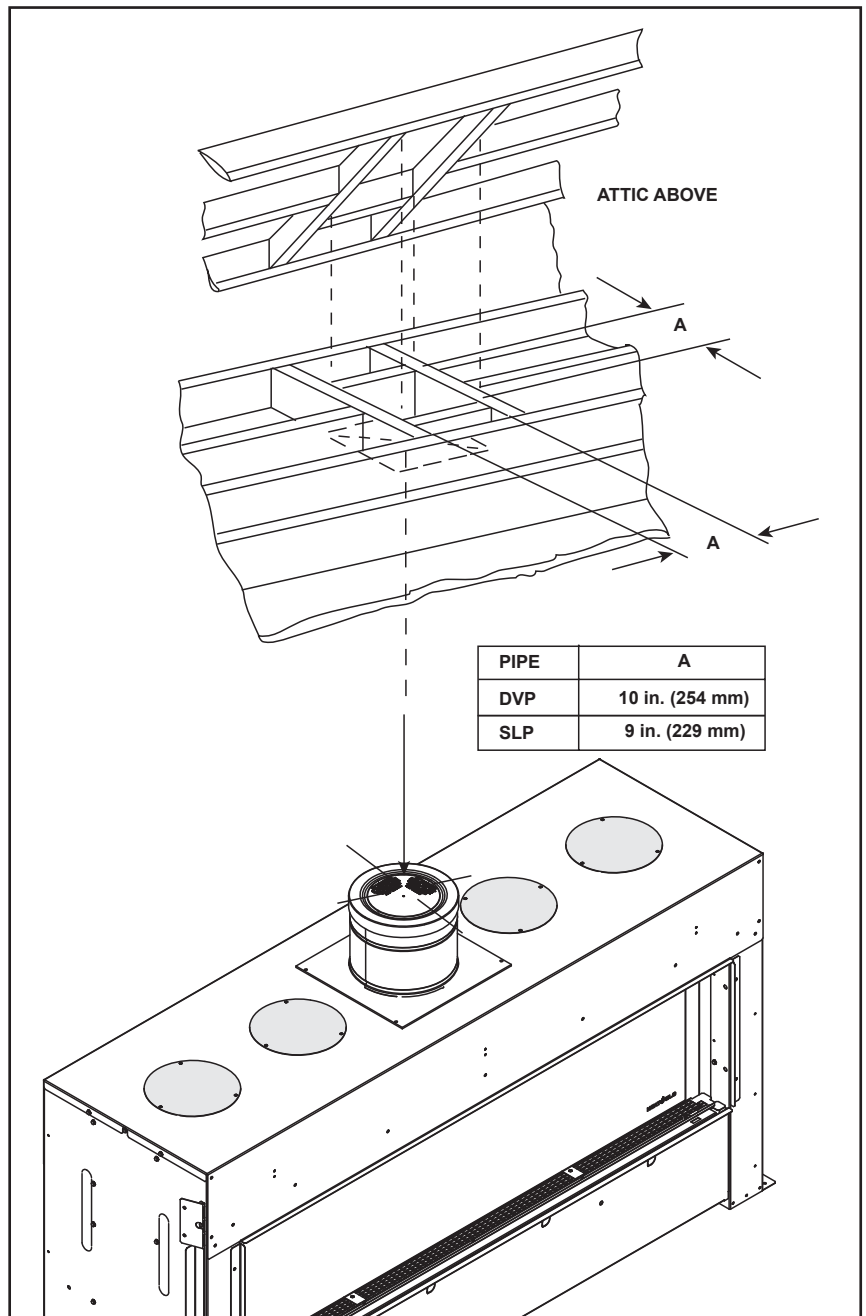

Figure 5.5 Installing Ceiling Firestop
- **DVP pipe only** - Frame an opening 10 in. by 10 in. (254 mm by 254 mm) whenever the vent penetrates a ceiling/floor. See Figure 5.5.